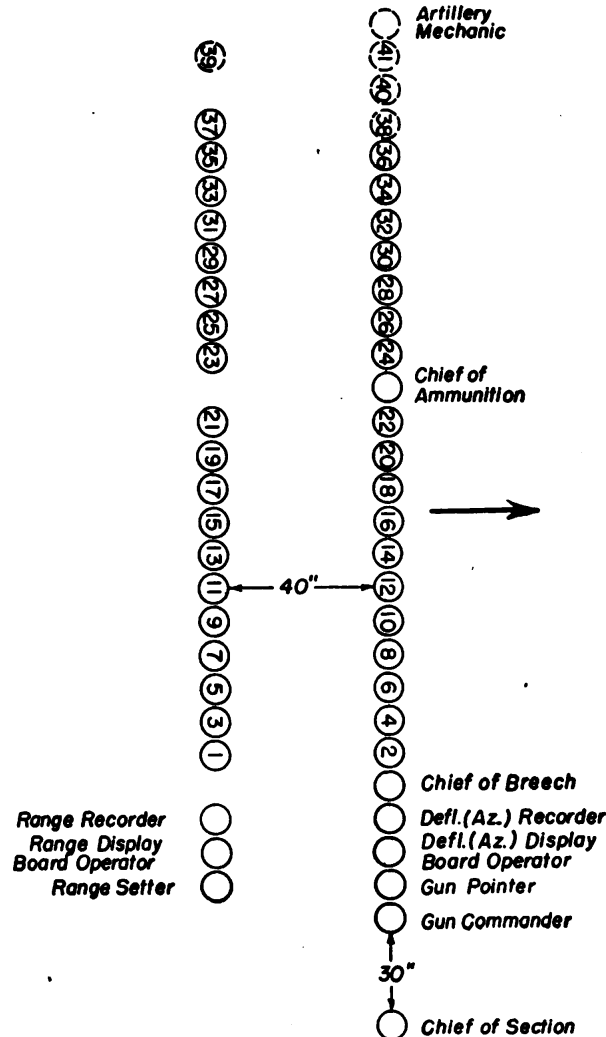

FIGURE 9.—Formation of gun section for 12- and 14-inch guns on disappearing carriages.
15. Notes on drill.—Q. What is the formation for the gun section of 12- and 14-inch guns on disappearing carriages? **A.** See figure 9.